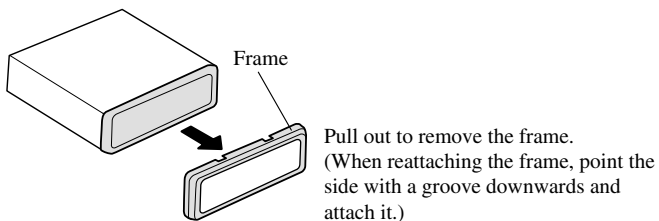

Fig. 12
1. Remove the frame. (Fig. 12)